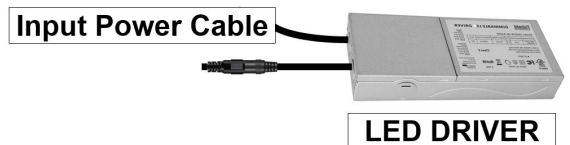

Fig.4
- Connect the input power cables to LED Driver. (Fig.4)